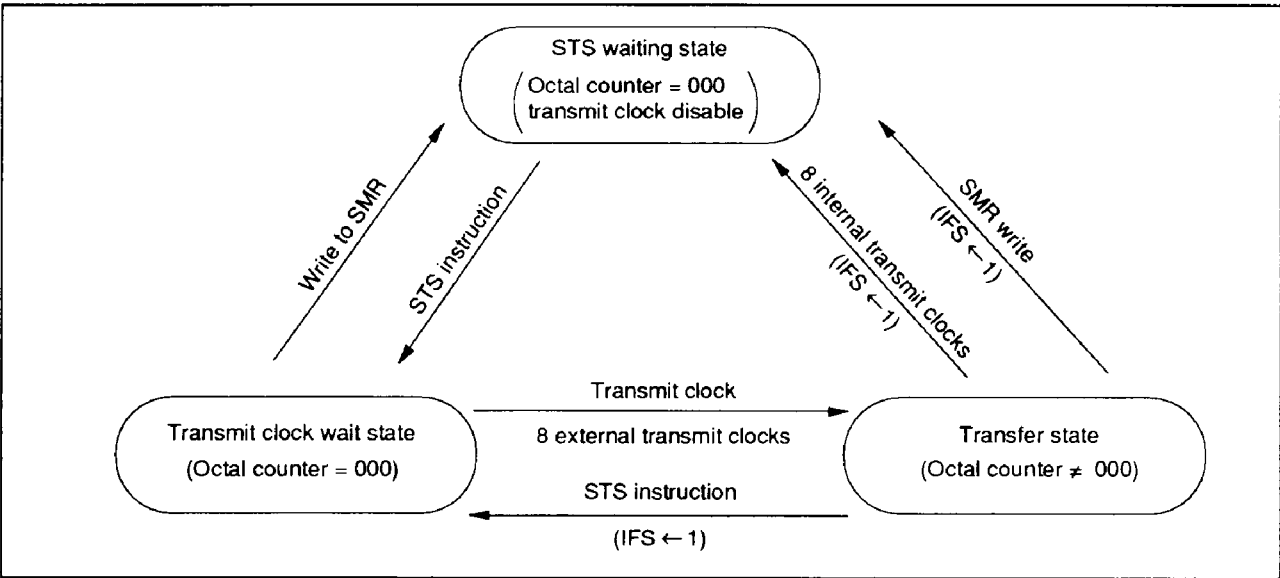

Figure 12 Serial Interface Operation States
**Operating State of Serial Interface:** The serial interface has three operating states: the STS waiting state, transmit clock wait state, and transfer state (figure 12).